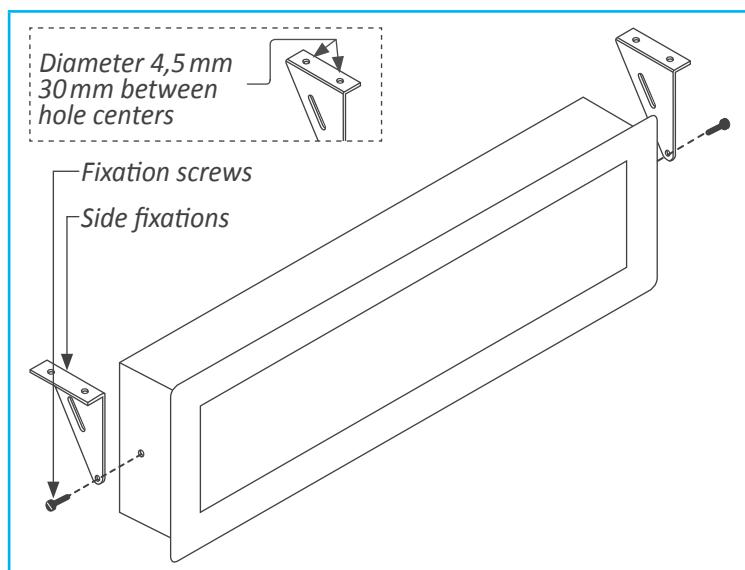

Figure 9 - Hanging mount
- Hanging mount. Mount the side fixations as shown (see Figure 9). Each fixation has 2 holes with 4.5 mm diameter and a separation between hole centers of 30 mm. Instrument can be hanged using cable, threaded rod,